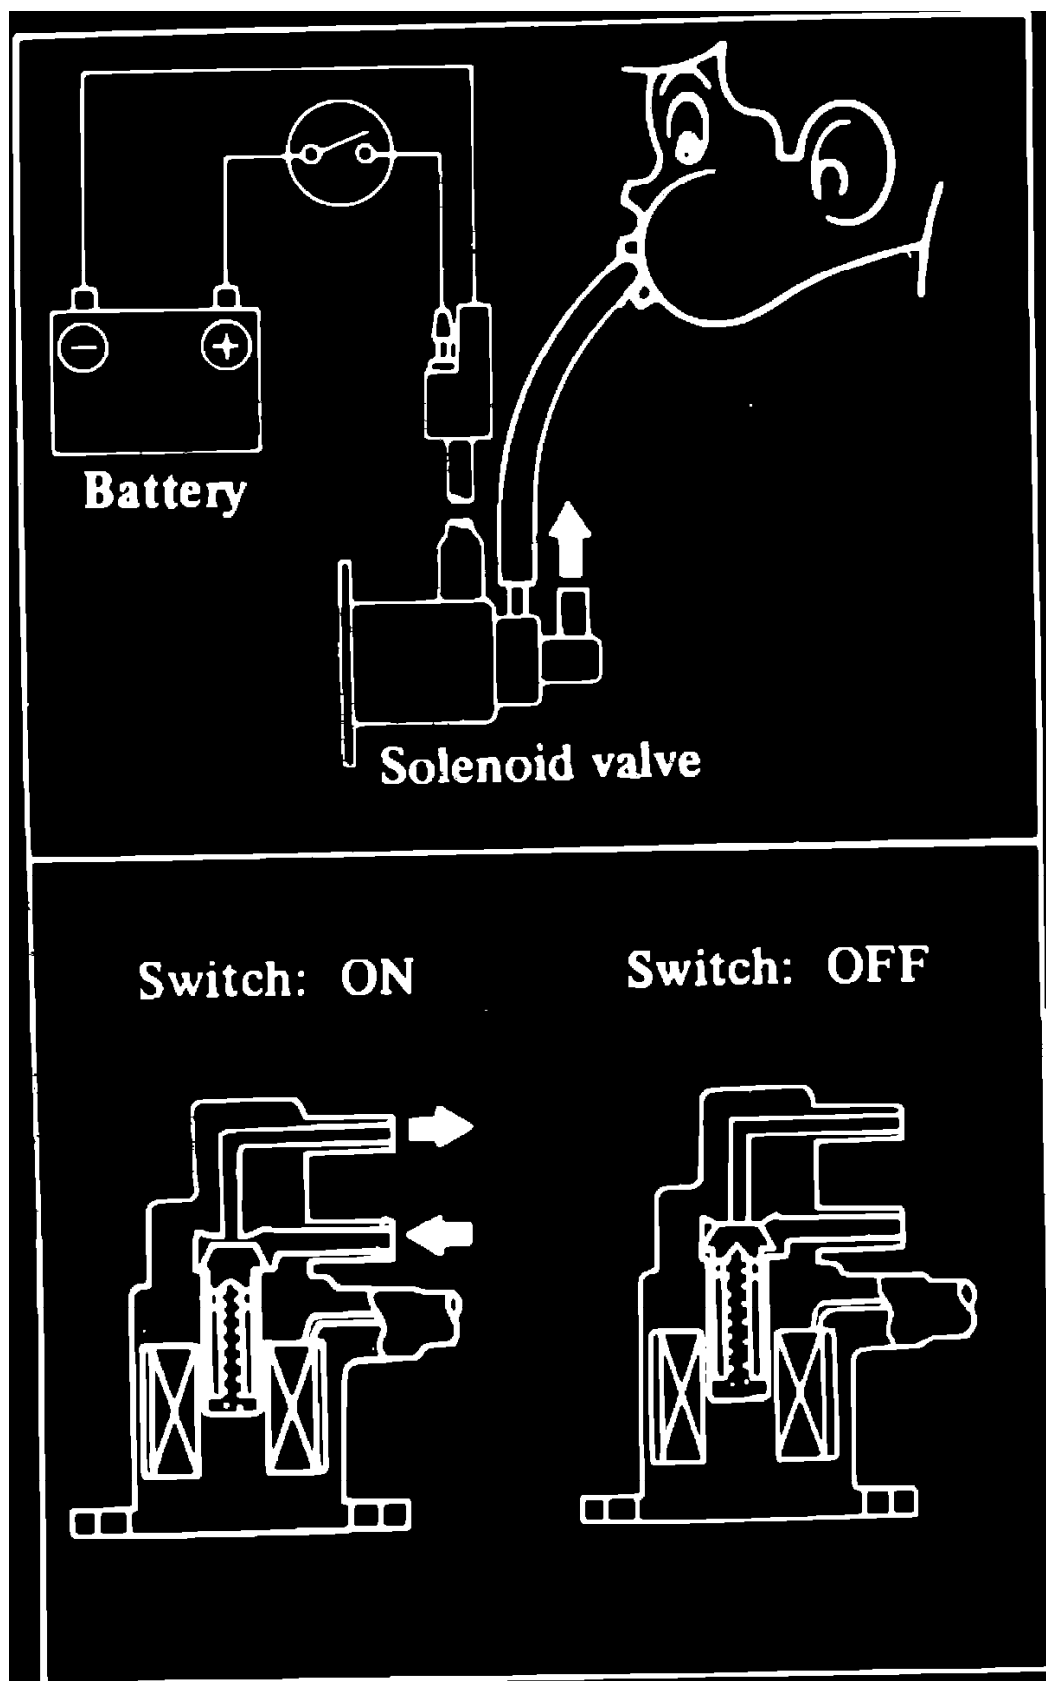

Fig. 22 Vacuum switching valve air flow
2. Operate solenoid valve with battery voltage to determine if air flows through valve properly, **Fig. 22**.